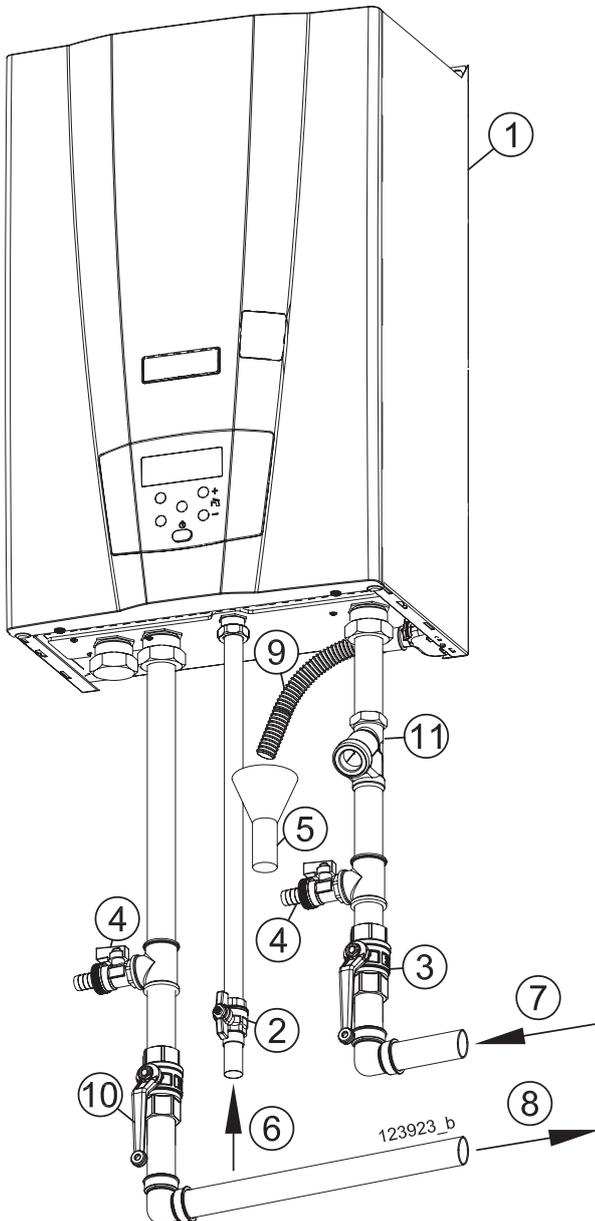

Figure 5-5 - Typical piping
There is a siphon inside the appliance for the evacuation of condensate (see figures 3-2 and 3-4 detail "40") and to prevent combustion products from escaping, whose end corresponds to the pipe "9" in figure 5-5. This termination must be conveyed into an anti-odour siphon (figure 5-5 detail "5") to prevent bad odours returning into the environment.
means of appropriate siphon with disjunction capable of preventing the pressurisation of the system and to prevent the return of bad odours from the sewer (detail "5" in figure 5-5).
The appliance is protected against overpressures by a safety valve rated to 10 bar (see figures 3-1 and 3-4 detail "28"). The safety valve drain is conveyed on the same pipe "9" as per figure 5-5.
**CAUTION !!!** The example in figure 5-5 is a concept drawing only. It is up to the system designer to determine the necessary components, including additional equipment which in the judgement of the designer are appropriate, in order to properly size, configure and design that system and to ensure compliance with local and national code.
Key of figure 5-5: